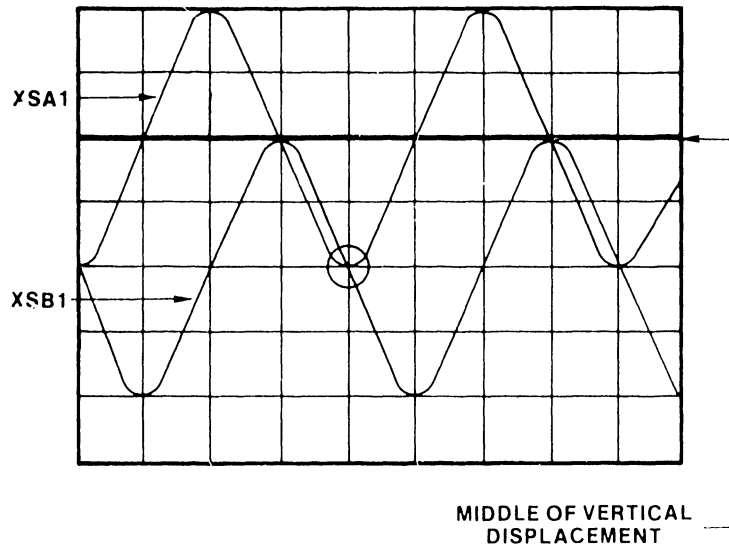
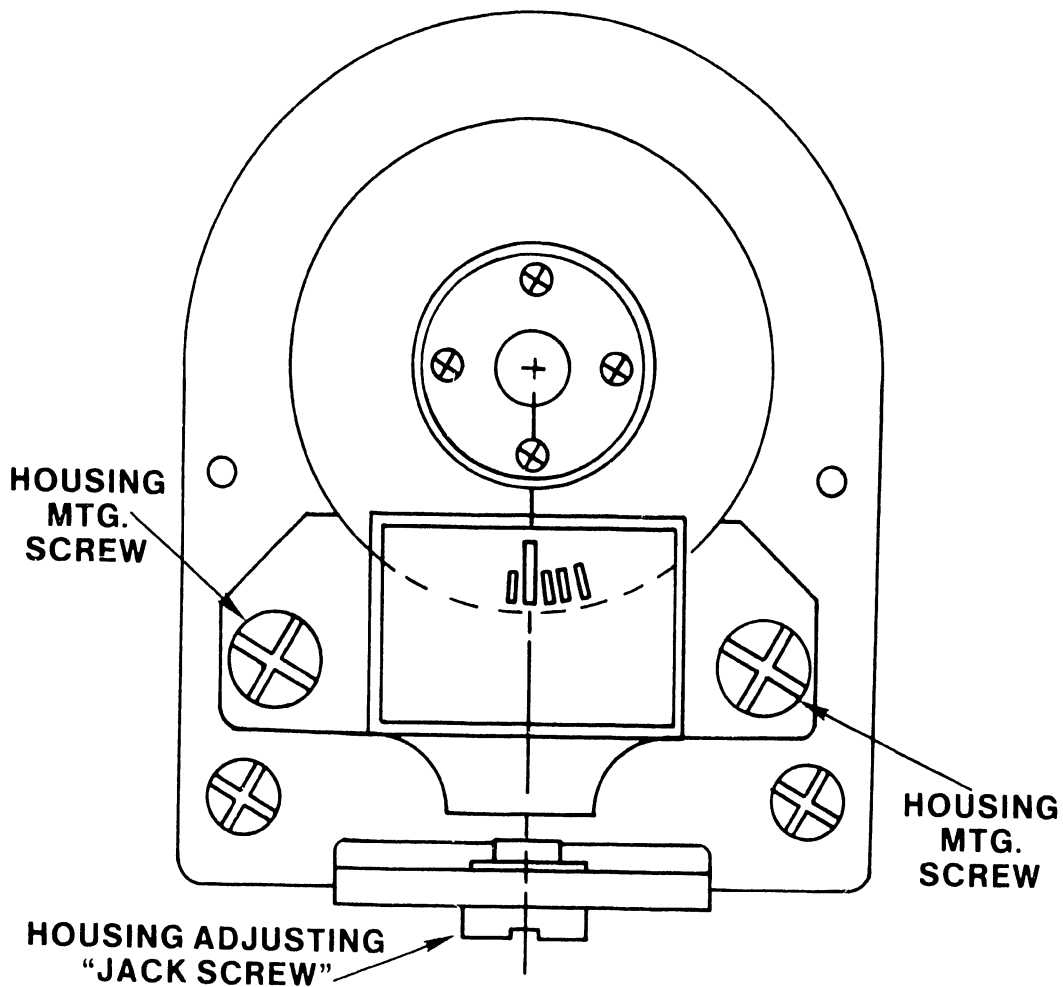

FIGURE 5-4 CORRECT ENCODER PHASING
FIGURE 5-5 PRINT WHEEL/CARRIAGE DRIVE ENCODER PHASE ALIGNMENT
8. Connect oscilloscope channel A probe to signal ZSA1. Connect oscilloscope channel B probe to signal ZSB1. Adjust position of signal ZSB1 so that its positive peak is at middle of the total (positive and negative) vertical displacement of the channel A signal on graticule of oscilloscope as shown in Figure 5-4.
21. Connect oscilloscope channel A probe to signal ZSA1. Connect oscilloscope channel B probe to signal ZSB1. Adjust position of signal ZSB1 so that its positive peak is at middle of the total (positive and negative) vertical displacement of the channel A signal on graticule of oscilloscope as shown in Figure 5-4.
3. Loosen the two housing mounting screws (see Figure 5-5).
7. As the print wheel rotates in a clockwise direction, adjust the "jack screw" (see Figure 5-5) using the jack screw adjusting tool (W.L.# 726-9688) or an appropriate flat blade screwdriver inserted thru the access holes in the printer base to move the encoder bracket up or down until the proper phase shift balance is attained. Phasing must be equally balanced in both directions (the crossover point on the oscilloscope is either aligned with the vertical center line or equally distant from the imaginary center line as shown in Figure 5-4).
10. As the print wheel rotates in a counter clockwise direction, adjust the "jack screw" if required (see Figure 5-5) using the jack screw adjusting tool (W.L.# 726-9688) or an appropriate flat blade screwdriver inserted thru the access holes in the printer base to move the encoder bracket up or down until the proper phase shift balance is attained. Phasing must be equally balanced in both directions (the crossover point on the oscilloscope is either aligned with the vertical center line or equally distant from the imaginary center line as shown in Figure 5-4).
11. Tighten the housing mounting screws (Figure 5-5).
17. As the print wheel rotates in a clockwise direction, adjust the "jack screw" (see Figure 5-5) using the jack screw adjusting tool (W.L.# 726-9688) or an appropriate flat blade screwdriver inserted thru the access holes in the printer base to move the encoder bracket up or down until the proper phase shift balance is attained. Phasing must be equally balanced in both directions (the crossover point on the oscilloscope is either aligned with the vertical center line or equally distant from the imaginary center line as shown in Figure 5-4).
22. As the print wheel rotates in a counter clockwise direction, adjust the "jack screw" (see Figure 5-5) if required using the jack screw adjusting tool (W.L.# 726-9688) or an appropriate flat blade screwdriver inserted thru the access holes in the printer base to move the encoder bracket up or down until the proper phase shift balance is attained. Phasing must be equally balanced in both directions (the crossover point on the oscilloscope is either aligned with the vertical center line or equally distant from the imaginary center line as shown in Figure 5-4).
23. Tighten the housing mounting screws (Figure 5-5).